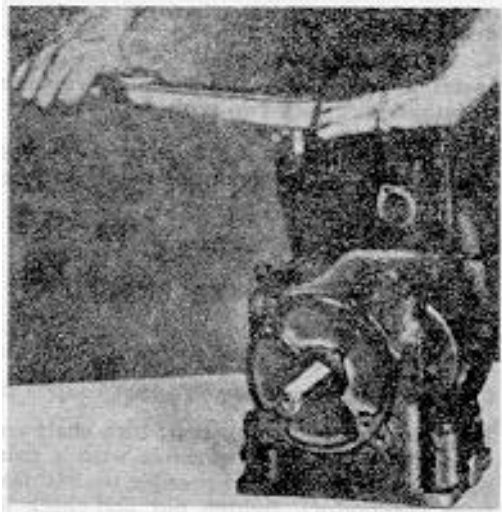

Figure 29
- c. It is important that head cap screws be tightened evenly and in steps until 200 inch pounds torque is reached. Figure 29.